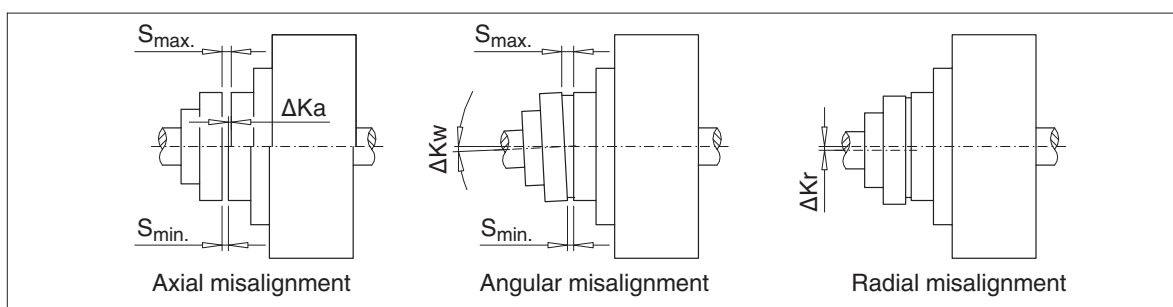

Fig. 9: Possible misalignments
Axial misalignment ΔK_a (Fig. 9) of the coupling parts relative to one another is possible within the "permissible deviation" for dimension "S" (see order-related title page).
The angular misalignment ΔK_w (Fig. 9) can usefully be measured as the difference in the gap dimension "S" ($\Delta S = S_{\max.} - S_{\min.}$). For the permissible values for the difference in the gap dimension, refer to item 6.5.4.
For the permissible radial misalignment $\Delta K_{r \text{ perm.}}$ (Fig. 9) – depending on the operating speed –, refer to item 6.5.4.